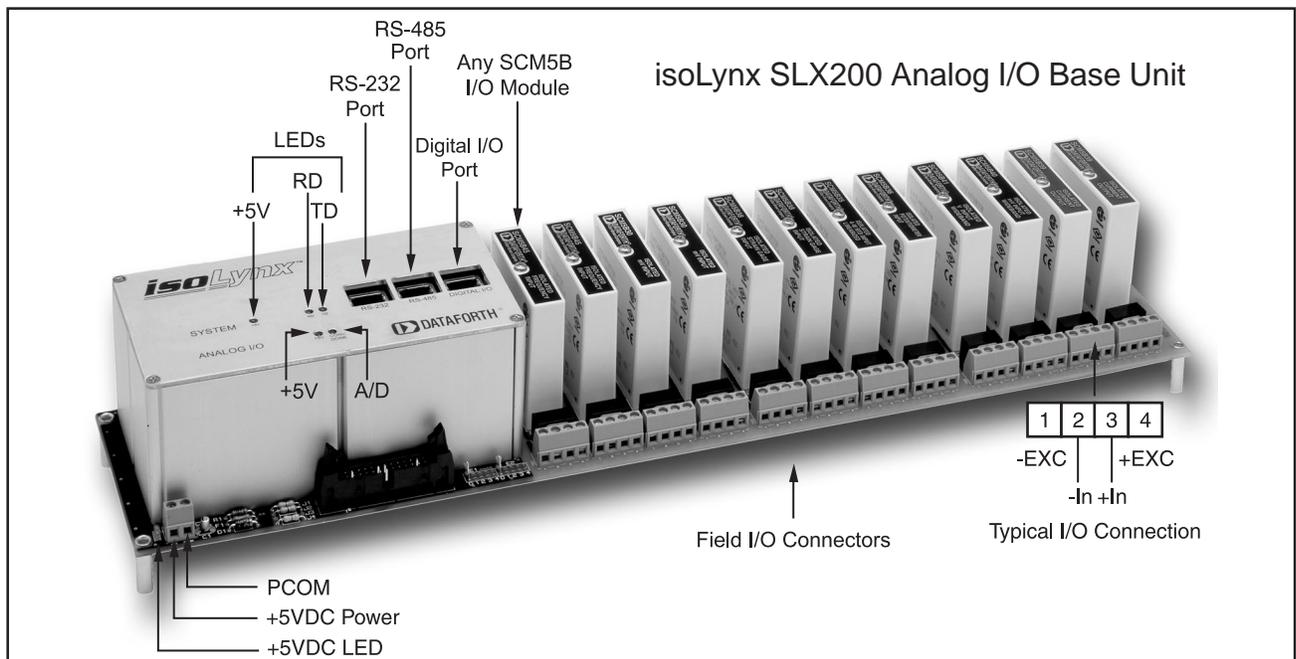
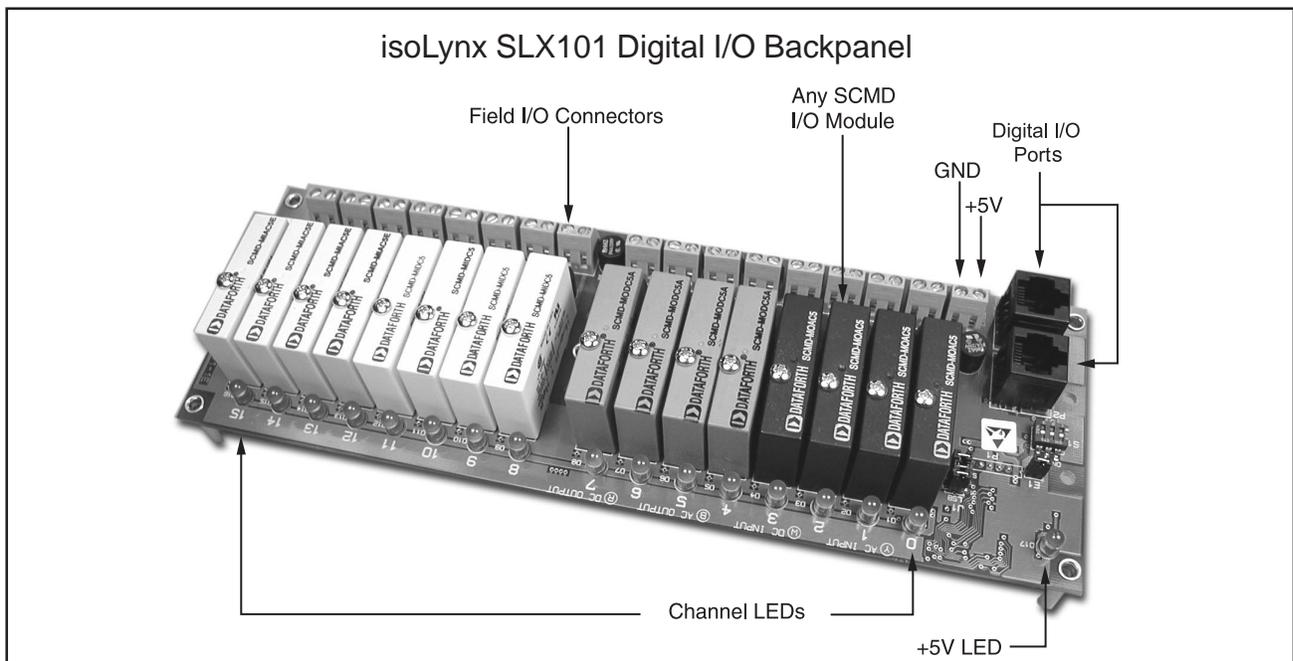

Figure 1.1
Figure 2.1
- isoLynx Controller (containing one SLX211 Processor Board, one I/O Signal Converter Board, and one optional Industrial Communication Board) mounted on the 12 channel Analog I/O Base Unit backpanel. Similar to Figure 1.1 depending upon model ordered.
Install an SCM5B input module in channel position 0. Connect an appropriate sensor or calibration signal source to the field I/O connectors on the backpanel in front of the module (Refer to Figure 1.1 for I/O connection diagram).
Install an SLX141-xx cable (RJ45 both ends) and an SLX142-x or SLX143-x RJ-45 to DB-9 adapter (either factory preset or user configurable) between the isoLynx SLX200 Analog I/O Base Unit RS-232 port (RJ-45) and a PC RS-232 port (DB-9). See Figure 1.1. From the factory, these models are shipped configured for RS-232 (Modbus RTU), 19200 bits/second (Baud) interface.
- isoLynx SLX101 Digital I/O Backpanel. Similar to Figure 2.1 depending on model ordered.
Install an SCMD input module in channel position 0. Connect an appropriate discrete digital signal to the field I/O connectors (note: odd numbered screw terminals are + connection) on the backpanel behind the module. See Figure 2.1. The isoLynx SLX101 Digital I/O Backpanel will demonstrate basic operation without any modules installed as long as at least one input channel is configured.
Install one end of an SLX141-xx straight through CAT5 cable into either Digital I/O port, see Figure 2.1. Install the other end of the cable into the Digital I/O port on the isoLynx SLX200 Analog I/O Base Unit, see Figure 1.1.
Install an SLX141-xx cable (RJ45 both ends) and an SLX142-x or SLX143-x RJ-45 to DB-9 adapter (either factory preset or user configurable) between the isoLynx SLX200 Analog I/O Base Unit RS-232 port (RJ-45) and a PC RS-232 port (DB-9). See Figure 1.1. From the factory, these models are shipped configured for RS-232 (Modbus RTU), 19200 bits/second (Baud) interface
Connect a +5VDC 1 Amp (minimum) linear power supply and turn on the power. Observe the +5V LEDs lighting. Observe the A/D LED blinking with a 50% duty cycle. For location of LEDs, see Figure 1.1.